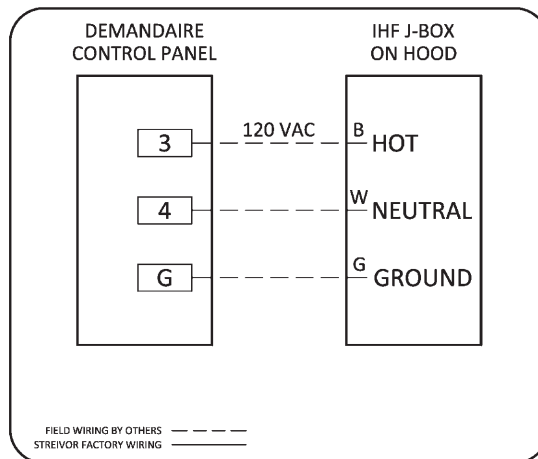

FIGURE 7: Internal Hood Fan Power Circuit Wiring
- Connect 120 VAC single phase power from terminal block 3 (hot), terminal block 4 (neutral), and *ground* in the control panel to the wires labeled “IHF” in the junction box on each hood (*Figure 7*).